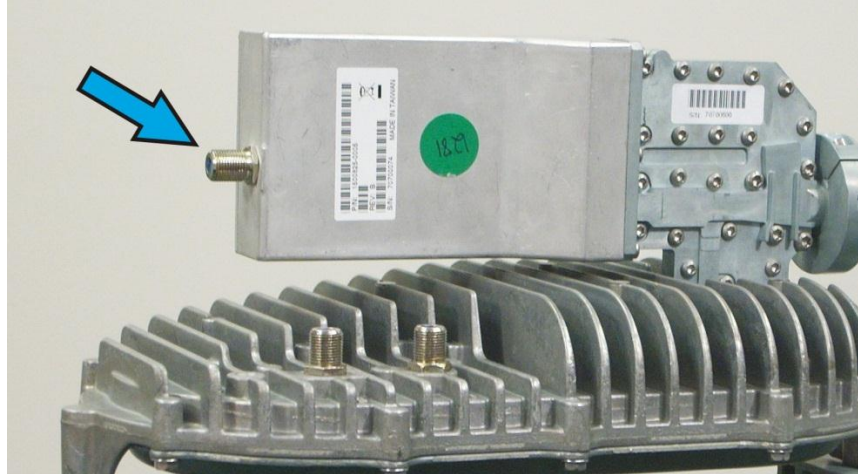

Figure 27: Receive connector
3. Connect the receive cable to the receive connector on the LNB, shown in Figure 27.